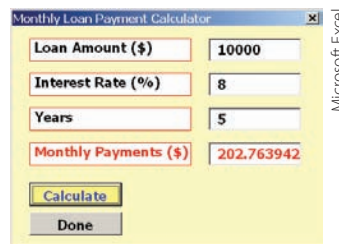

FIGURE 14.70
20. Now, see if you can change the properties of the dialog, label, and text boxes to create a Monthly Loan Payment Calculator that looks like the one shown Figure 14.70.